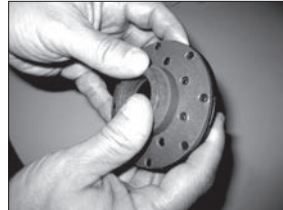

Figure 25
2. To reinstall simply press the thrust ring into the impeller by hand. See figure 25.